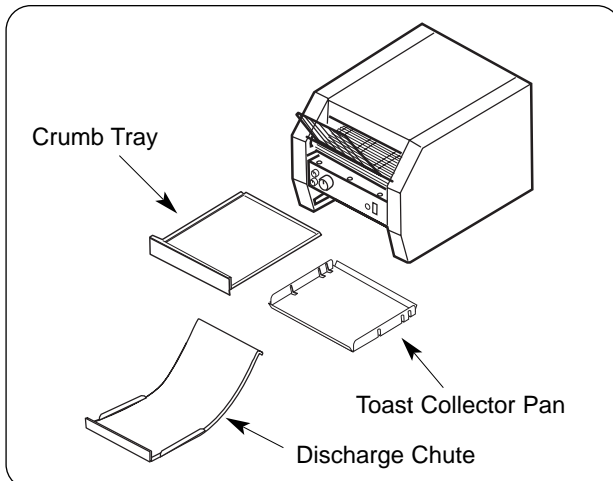

Figure 4. Front View – TQ-400 Model Shown
3. Remove tape from Discharge Chute, Crumb Tray and Toast Collector Pan. See Figure 4.